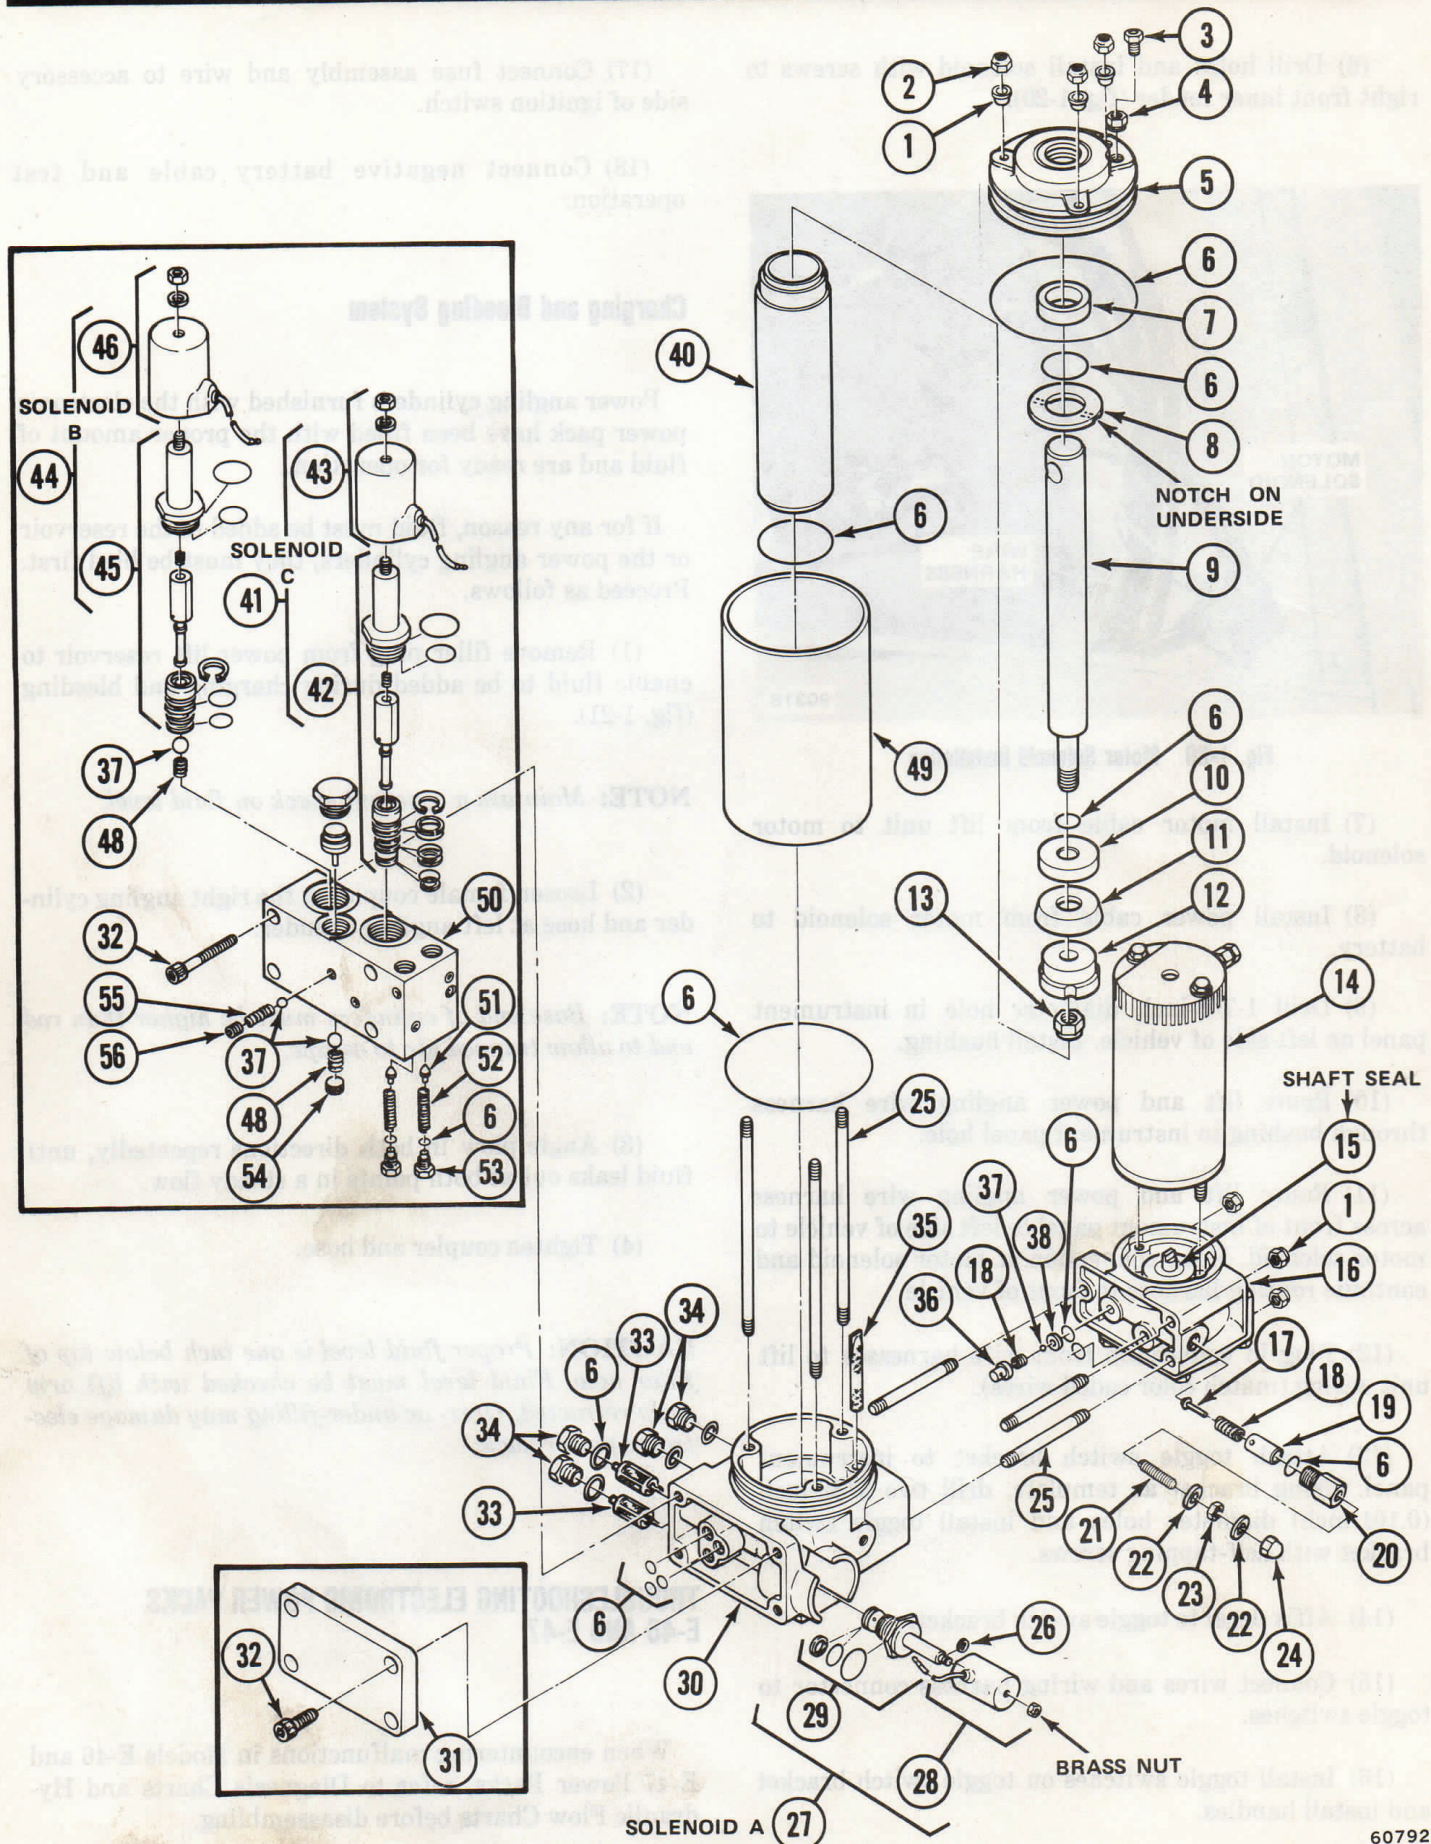

Fig. 1-21 Electronic Power Pack—Exploded View
(1) Remove filler plug from power lift reservoir to enable fluid to be added during charging and bleeding (fig. 1-21).
Legend For Figure 1-21
- (1) Remove locknuts from reservoir cover (fig. 1-21).